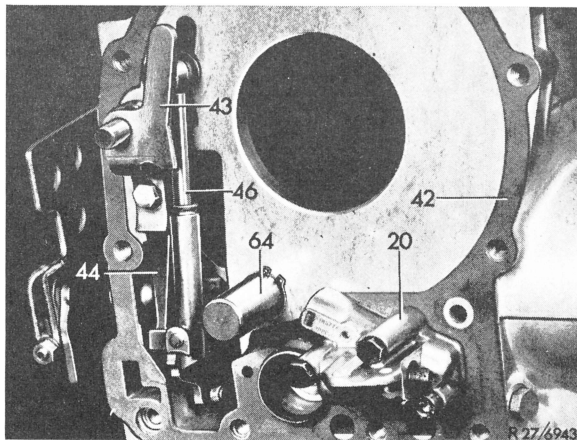

Fig. 20
**31** Unscrew modulating pressure valve housing (20) and remove gasket (42) (Fig. 20).
**32** Unscrew bracket (43), remove with leaf spring (44) and roller on needle bearing (Fig. 20).